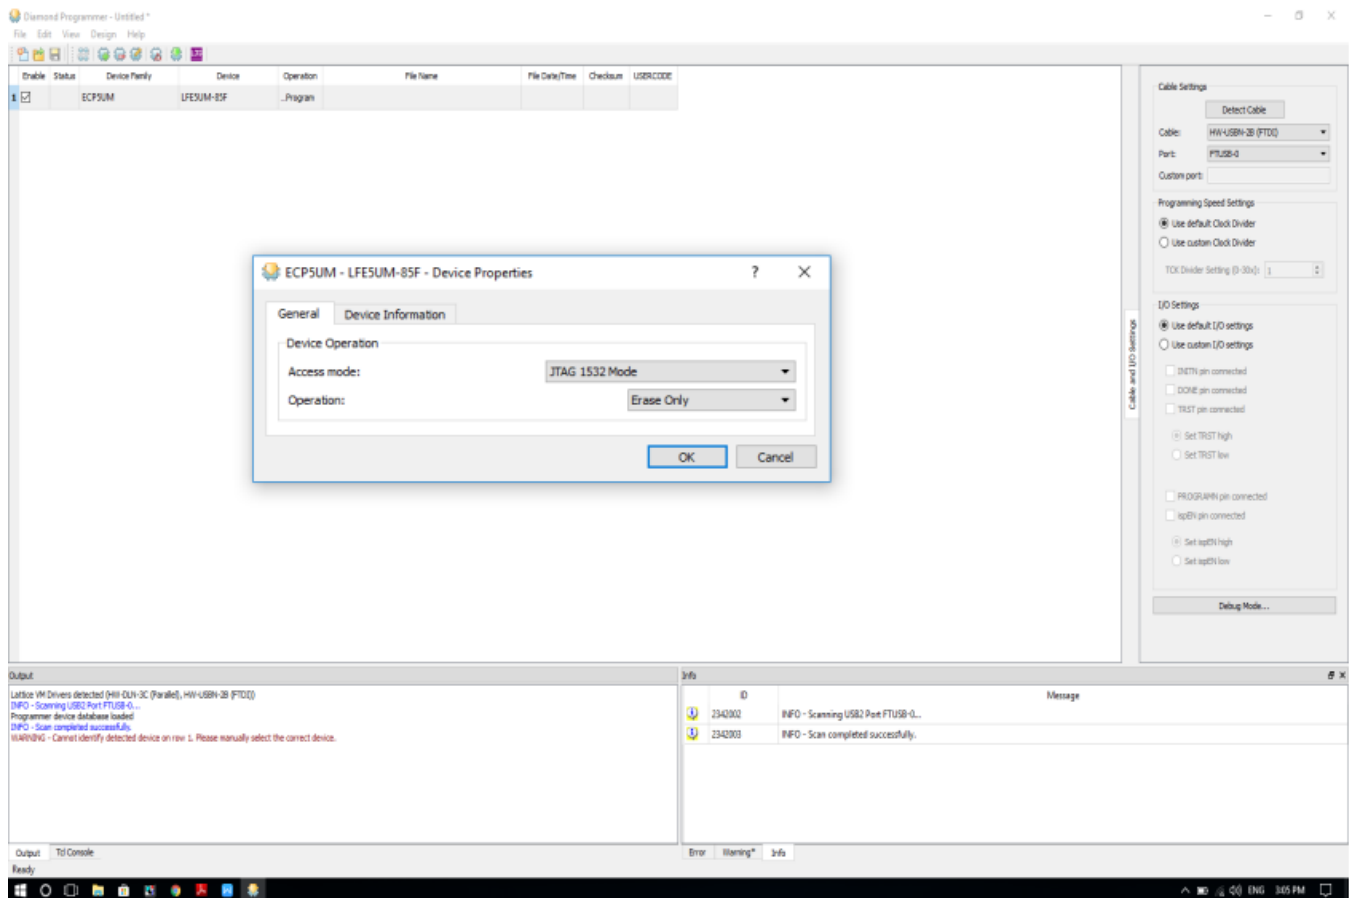

Figure 25. Select JTAG Option and Bit File
4. Click the Operation tab, and select the Access mode options as JTAG 1532 mode; and for Operation select “Erase Only” for the Erase bit file in the FPGA, as shown in Figure 25.